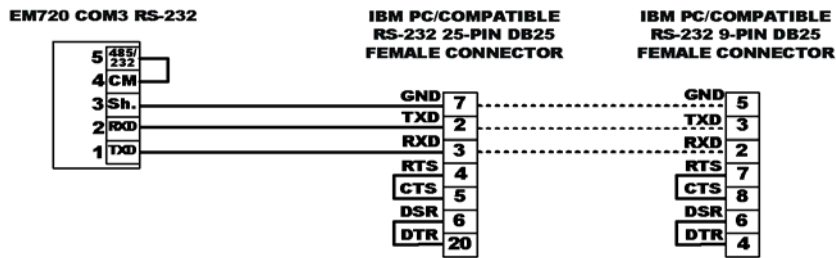

Figure 24: RS-232 Simple 3-wire Connection , 25-pin or 9-pin PC COM Port
1. Remove the sealed screws to open the front covers, as in figure 24